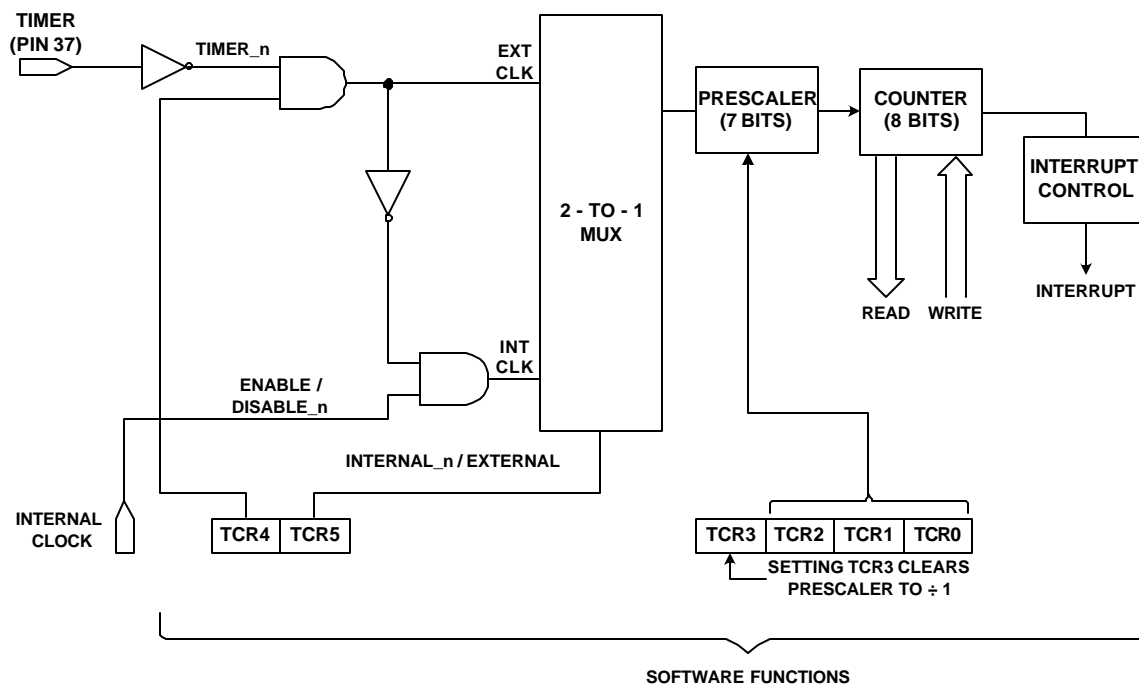

Figure 13. Timer Block Diagram
The MPU contains a single 8-bit software programmable counter driven by a 7-bit software programmable prescaler. The counter may be loaded under program control and decrements to zero. When the counter decrements to zero, the timer interrupt request bit in the timer control register (TCR7) is set. Figure 13 shows a block diagram of the timer. If the timer mask bit (TCR6) and the interrupt mask bit (I) of the condition code register are cleared, an interrupt request is generated. After completion of the current instruction, the current state of the machine is pushed onto the stack. The timer interrupt vector address is then fetched from locations \$1FF8 and \$1FF9 and the interrupt routine is executed, unless the MPU was in the WAIT mode in which case the interrupt vector address in locations \$1FF6 and \$1FF7 is fetched. Power-On-Reset causes the counter to set to \$FF.
- NOTE: 1. Prescaler and counter are clocked on the falling edge of the internal clock (AS) or external input.
2. Counter is written to during Data Strobe (DS) and counts down continuously.